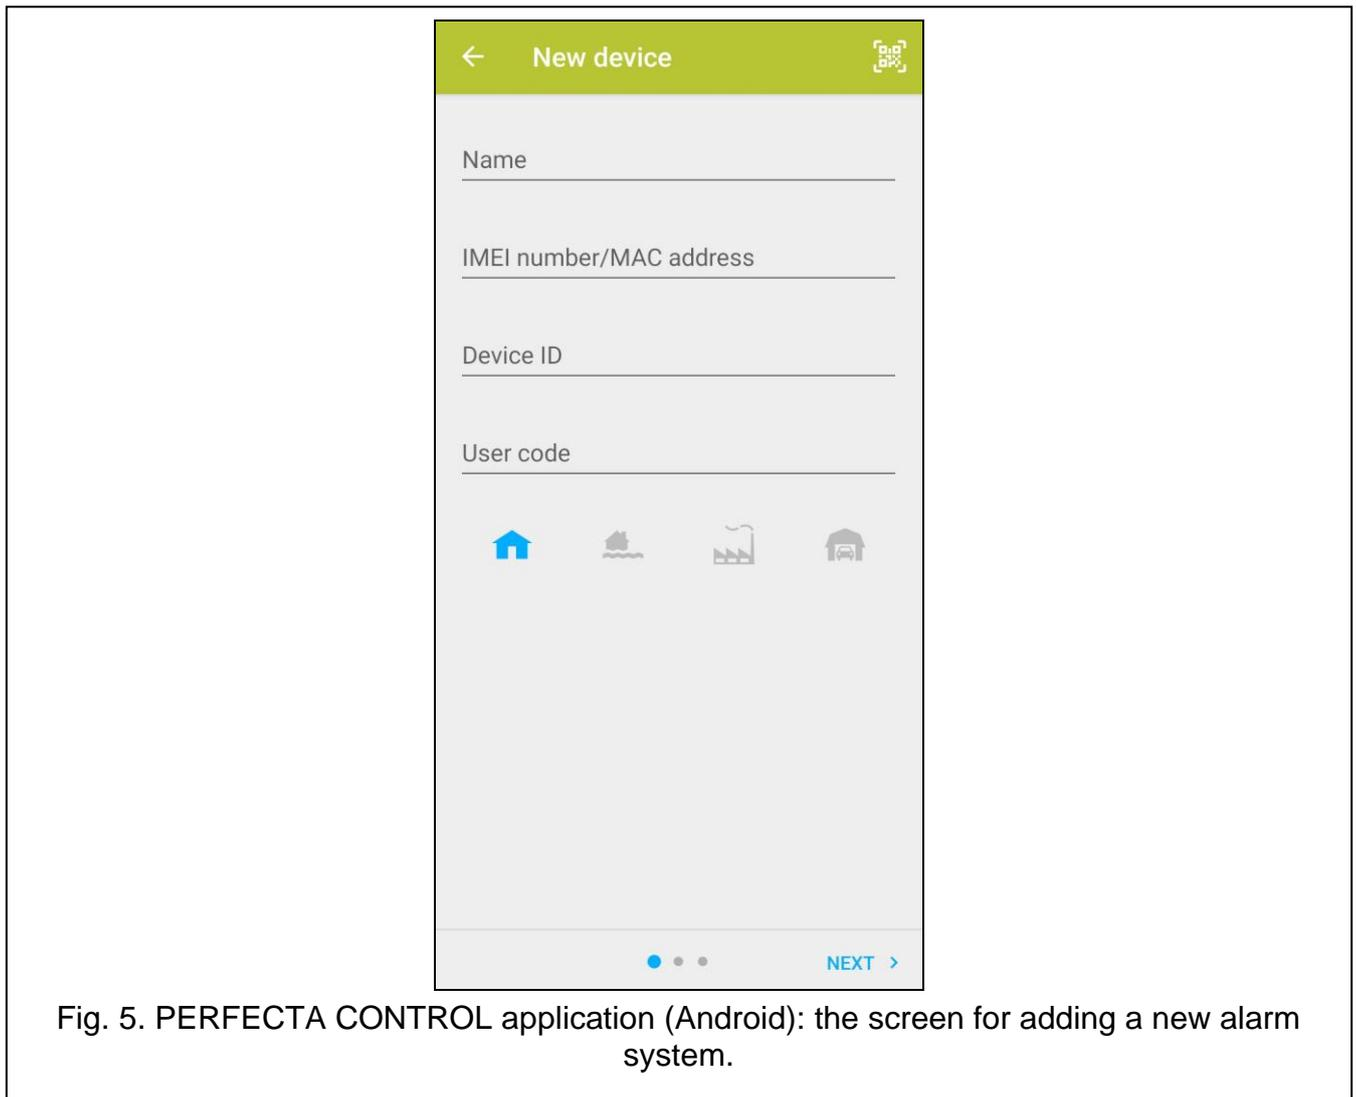

Fig. 5. PERFECTA CONTROL application (Android): the screen for adding a new alarm system.
3. The screen for adding a new alarm system will be displayed (Fig. 5).